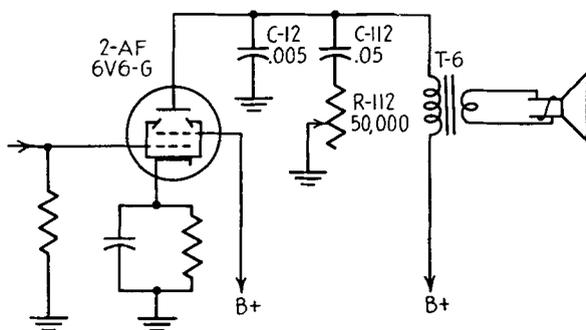

FIG. 10-12. Tone-control circuit in the second AF stage.
**Tone control in the second AF stage.** There are many tone-control circuits, the most common of which is shown in Fig. 10-12. Condenser C-112 and variable resistor R-112 are in parallel with condenser C-12.